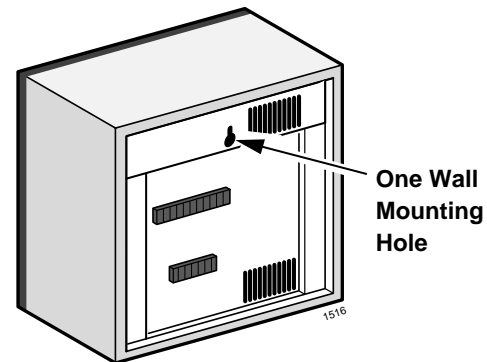

Figure 10-15 HESB Wall Mounting
1. Find a suitable location on the mounting surface for the HESB (see Figure 10-15).